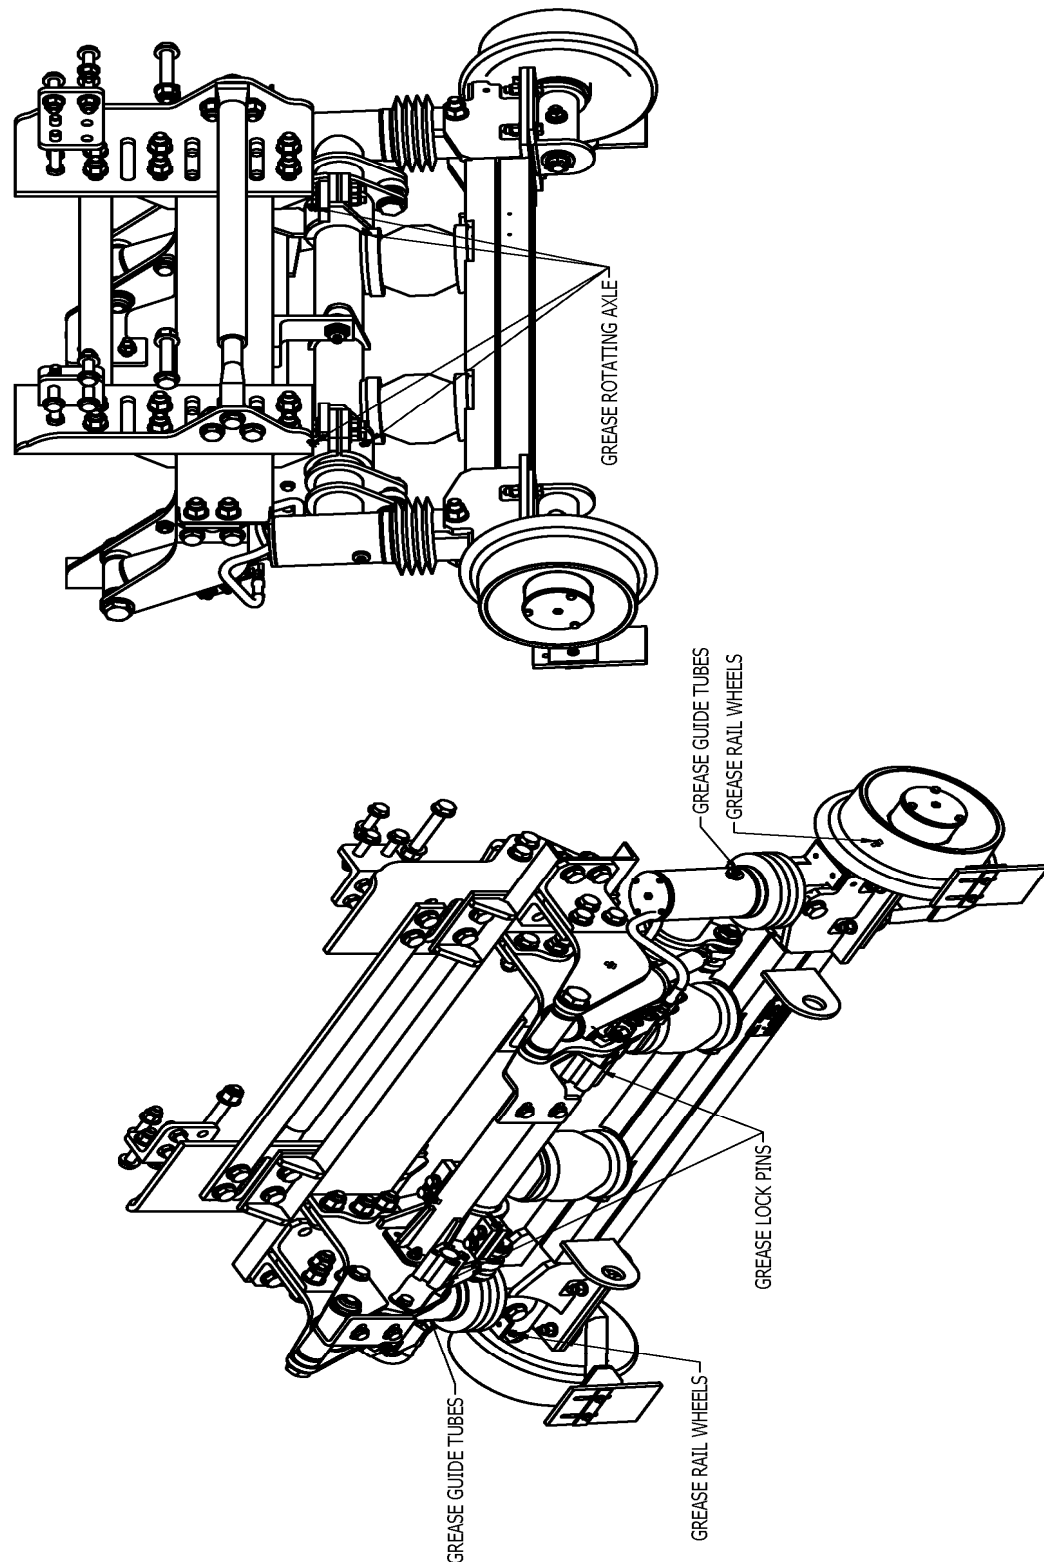

Figure 9: Railgear Lubrication Points
23. Grease the railgear at all lubrication points as detailed in the Service section of this manual. (Figure 9)
Grease fittings are provided at all railgear lubrication points as shown in Figure 9. The recommended lubricant for all lubrication points on this railgear is MYSTIK JT-6 LOW TEMP grease or equivalent. In cold weather areas/seasons, SHELL DARINA XL102 or equivalent may be used.